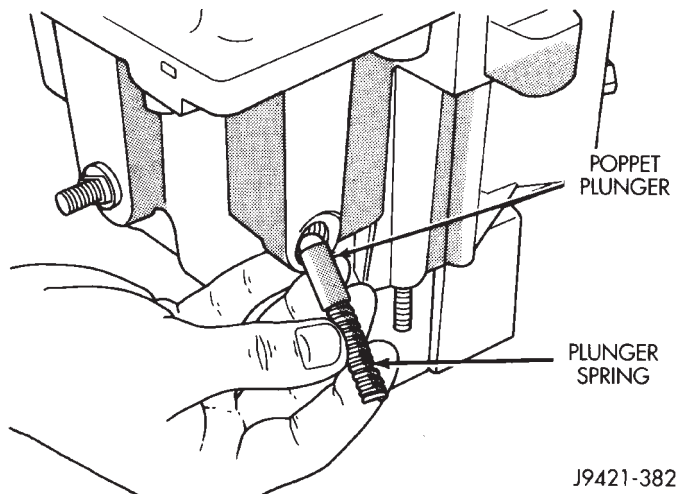

Fig. 76 Poppet Plunger And Spring Installation
(33) Install poppet plunger and spring in front case detent bore (Fig. 76).